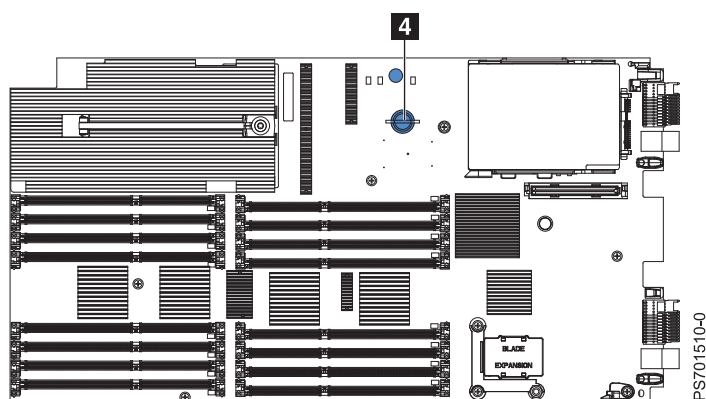

Figure 18. Expansion blade retention screw
8. To access the expansion blade retention thumb screw (shown by **4** in Figure 18).